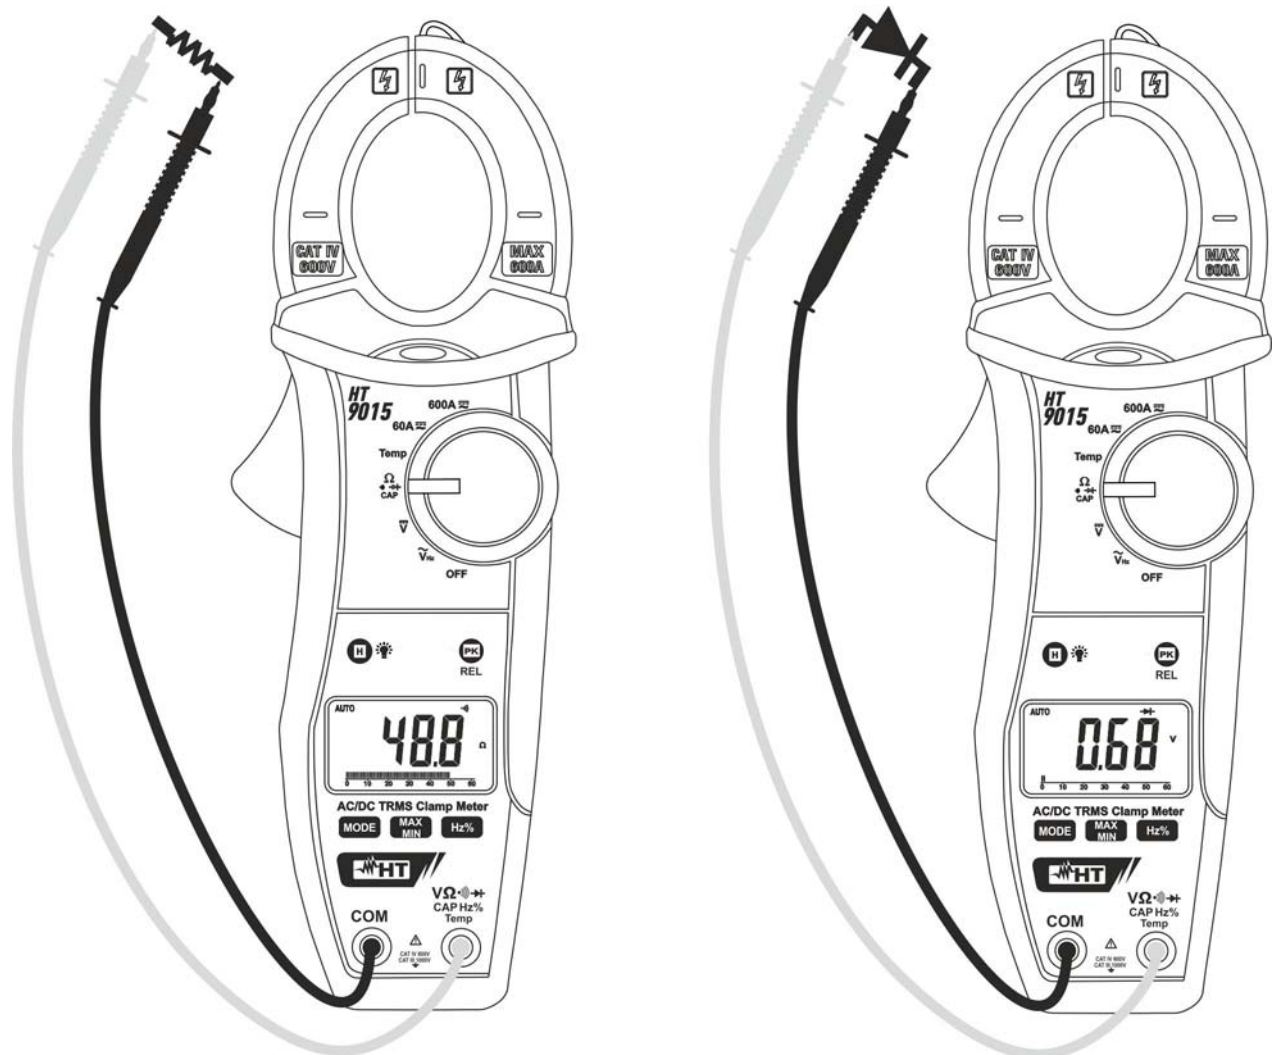

Fig. 6: Taking Continuity test and Diode test
3. Insert the red test lead plug into  $V\Omega \rightarrow \rightarrow \rightarrow$  CAPHz%Temp jack and the black test lead plug into **COM** jack and perform continuity test on the object under test (see Fig. 6 – left side). Buzzer emits sound if the measured resistance value is less about 60Ω
5. Connect the red test leads to the anode of diode on test and the black test lead on the cathode ones (see Fig. 6 – right side). Reverse position of test leads to reading reverse polarization voltage